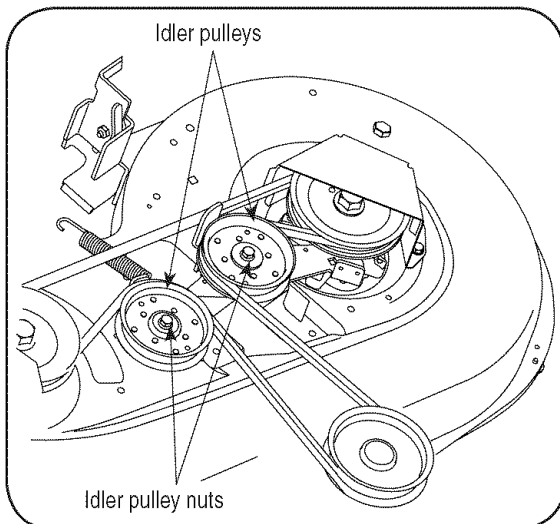

Figure 6-7
4. On the 42-inch deck only, loosen but do not remove, the idler pulley nuts. This will enable the belt to be easily removed from the idler pulleys. See Fig. 6-7 on the previous page.